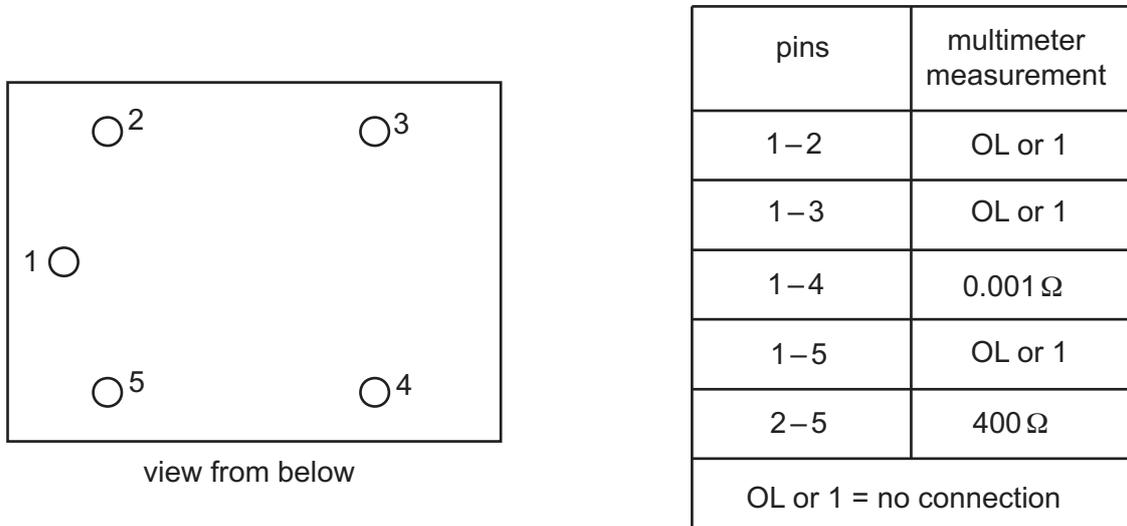

Fig. 11.4
- (v) Fig. 11.4 shows the relay outline and a table of test results. The tests were carried out using a multimeter on a resistor setting, to identify each connection on the relay. When a 12V supply is connected across pins 2 and 5 there is $0.001\ \Omega$ resistance between pins 1 and 3.